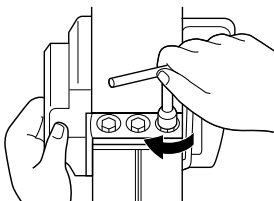

Fig. 8
- (3) As shown in **Fig. 8**, fix the bolts at the blade holder after blade replacement has been completed.